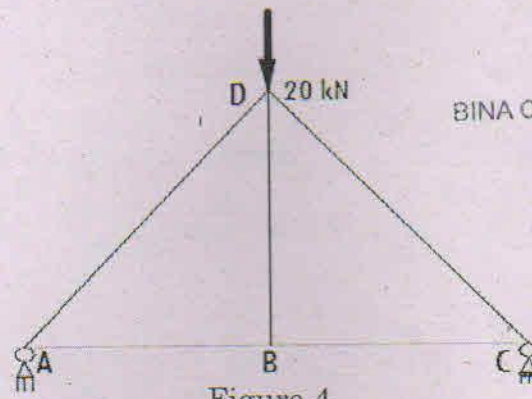

Figure 4
5. The ROTATION MATRIX for a member in a structure transforms LOCAL displacement and forces to GLOBAL displacement and forces respectively - Explain. Show that the ROTATION MATRIX for a horizontal member in a structure is a unit matrix. (10)
6. The beam element in a structure is made of Concrete Grade M25, the Width \times Depth = 300 mm \times 500 mm; the Span of the beam element is 5.0 meter. Evaluate the Element Stiffness Matrix of the ELEMENT. (10)
7. Find the downward displacement of joint B in the truss shown in figure 4 by virtual work method. Area of cross section of each member is 400 mm^2 . Take $E=200\text{kN/mm}^2$; $AB = BC = 3 \text{ meter}$ & $BD= 4 \text{ meter}$. (10)